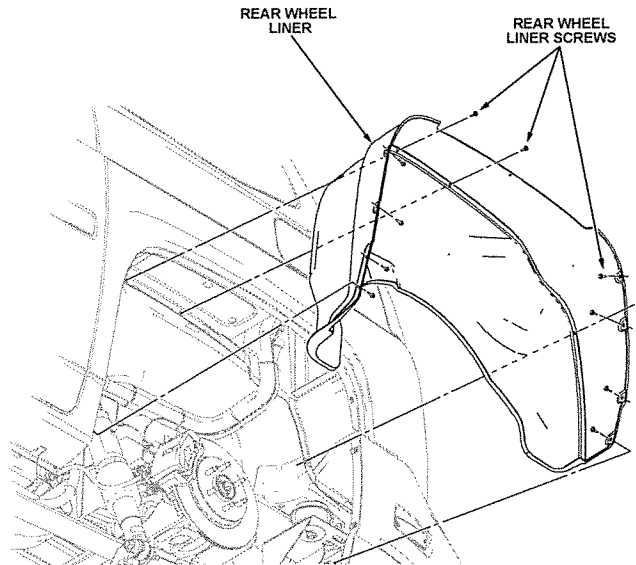

Figure 1: Wheel Liner
1. Remove the left rear wheel/tire assembly and the wheel liner (See Figure 1).